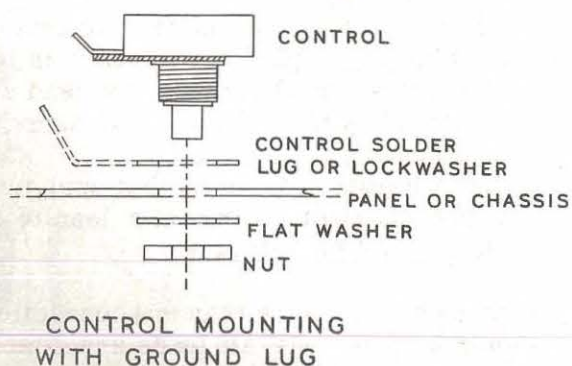
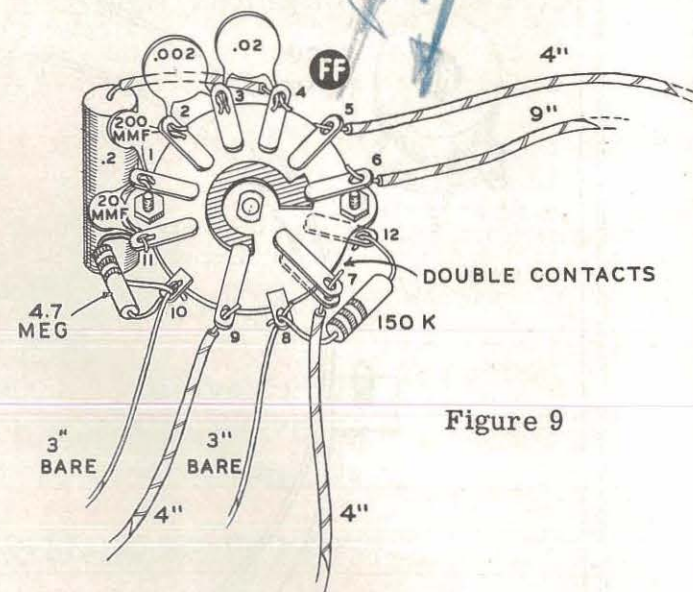

Figure 4
Figure 9
- (✓) Identify the HOR/FREQ. SELECTOR switch, FF, the 12-contact wafer switch. Observe that one of the switch contacts has lugs on both sides of the wafer. Using this for reference, orient the switch as shown in Figure 9. Also note that contact 12 is on the shaft side of the switch wafer.
- (✓) Connect a 150 K Ω resistor from FF12 (S) to FF8 (NS).
- (✓) Connect one end of a 3" length of bare wire to FF8 (S). Leave the other end free.
- (✓) Connect one end of a 4" length of wire to FF7 (S). Be sure that this lead is soldered to both of the contacts at the position.
- (✓) Connect one end of a 4" length of wire to FF9 (S). Leave the other end free.
- (✓) Connect one end of a 4" length of wire to FF5 (S). Leave the other end free.
- (✓) Connect one end of a 9" length of wire to FF6 (S). Leave the other end free.
- (✓) Connect a 4.7 megohm resistor from FF10 (NS) to FF11 (NS).
- (✓) Connect a 20 μ f ceramic disc capacitor from FF11 (S) to FF1 (NS).
- (✓) Connect a 200 μ f ceramic disc capacitor from FF1 (S) to FF2 (NS).
- (✓) Connect a 0.002 μ f ceramic disc capacitor from FF2 (S) to FF3 (NS).
- () Connect a small 0.02 μ f 600 volt ceramic disc capacitor from FF3 (S) to FF4 (NS).
- (✓) Connect one lead of a 0.2 μ f molded tubular capacitor to FF4 (use sleeving) (S). Connect the other lead to FF10 (NS).
- (✓) Add a 3" length of bare wire to FF10 (S). Leave the other end free.
- (✓) Carefully check the switch wiring against Figure 9. When satisfied that it is correct in every detail, mount the switch on the panel at FF. Be sure contacts FF3 and FF4 are pointing toward the panel ring. Follow Figure 4 for assembly details.